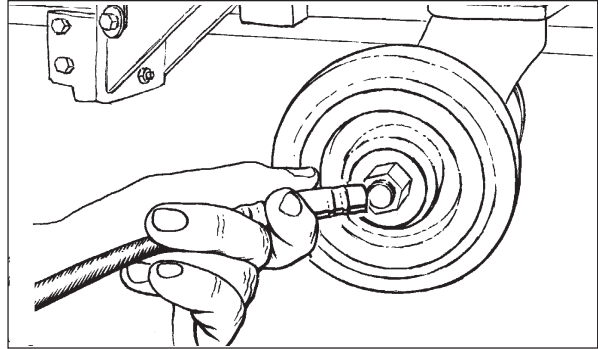

Figure 32
4. Use a grease gun to lubricate the dual casters. See figure 32.